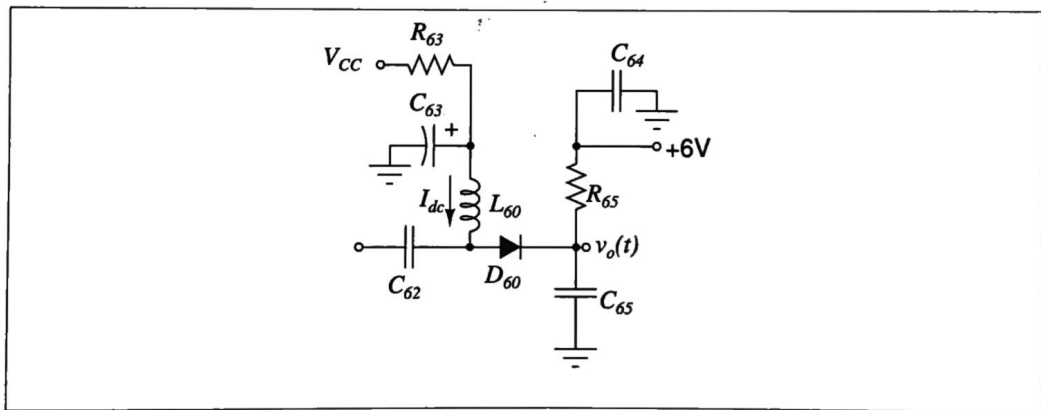

Figure 1: TRC-11 envelope detector circuit.
- The envelope detector circuit of TRC-11 is given in Fig. 1. It serves to recover the AM modulation signal present on the RF signal. It does so by rectifying the positive side of the AM modulated signal. A low-pass circuit composed of C65 and R65 gets rid of the RF signal frequency.
- A PIN diode acts like an RF resistance whose value is determined by the DC current flowing through it. It is inserted between the first and second IF amplifiers when the jumper JP70 is shorted. If the DC current through it increases, its resistance reduces and hence attenuates the signal going to the second IF amplifier as shown in Fig. 1. Refer to the datasheet of the PIN diode on page 375. Find the reverse breakdown voltage, V_R , and the series RF resistance, R_S , and the forward voltage, V_F of the PIN diode when 1 mA DC flows through it.